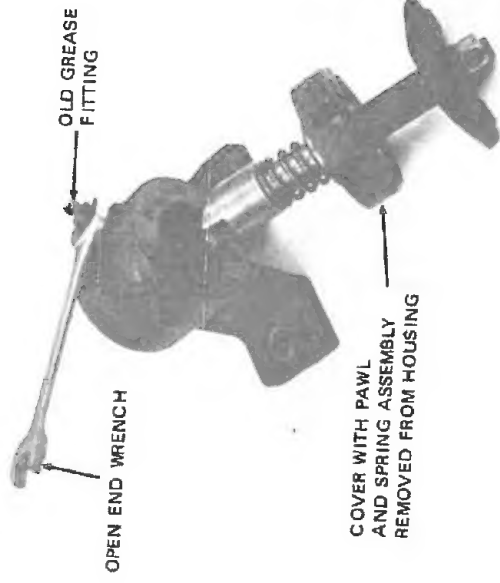

FIGURE 2
4. Remove grease fitting from housing. See fig. 2.